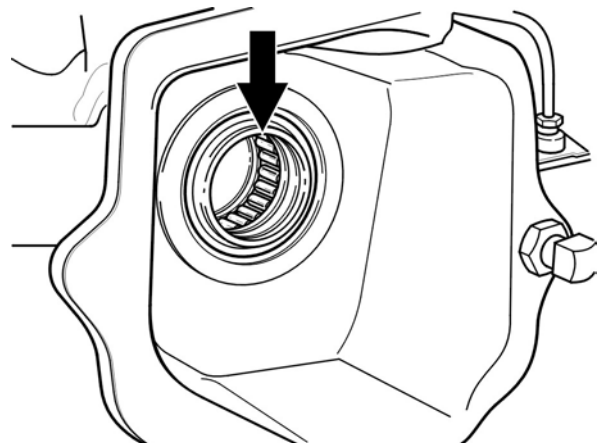

Figure 250 - Needle Bearing - Location
- ah. Check the condition of the needle bearing in the axle housing. Remove the outer shaft seal, circlip and needle bearing (Fig 250) if required. Remove the needle bearing with the assistance of the puller and extractor (Table 2, Items 25 and 44).